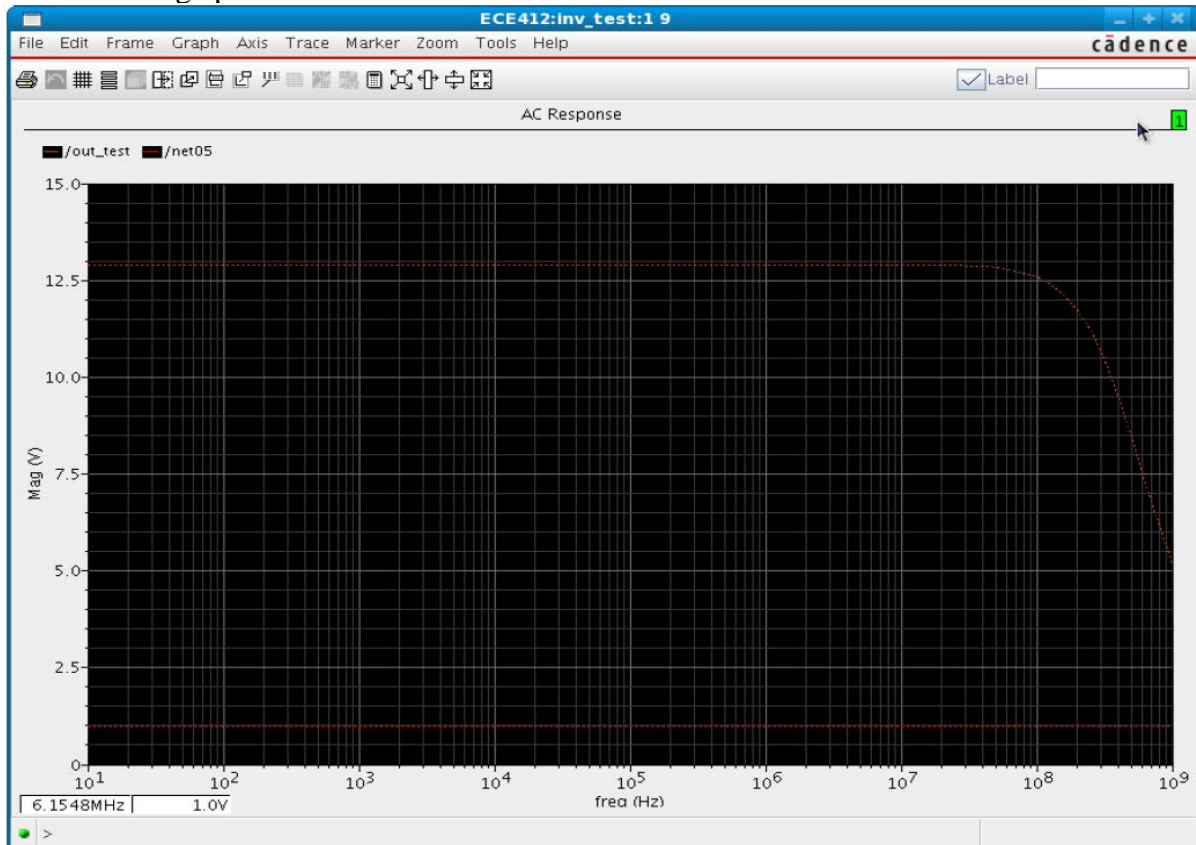

Figure 11 AC Analysis for an inverter
5. Start the simulation by clicking on the play button. The simulation result should look like figure 11.
6. To plot the Magnitude version of the curve in 20db or 10 db, right click on it and then select the desired plot from the upper-right drop-down menu in Virtuoso Visualization & Analysis Tool (figure 11 – the box next to “Label”). Similarly you can draw the phase by selecting “phase” from the same menu.